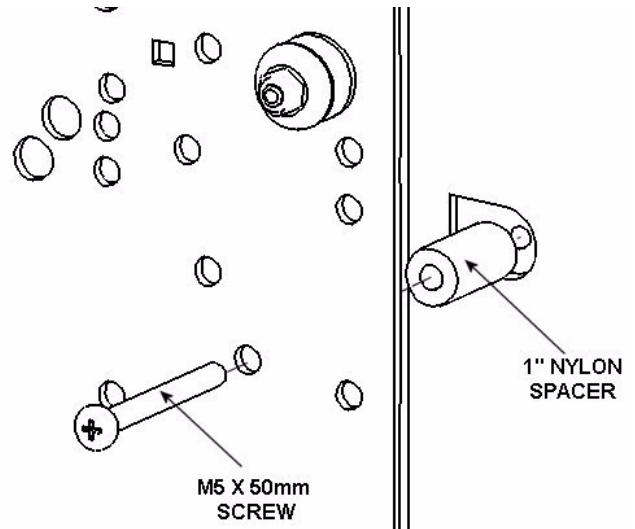
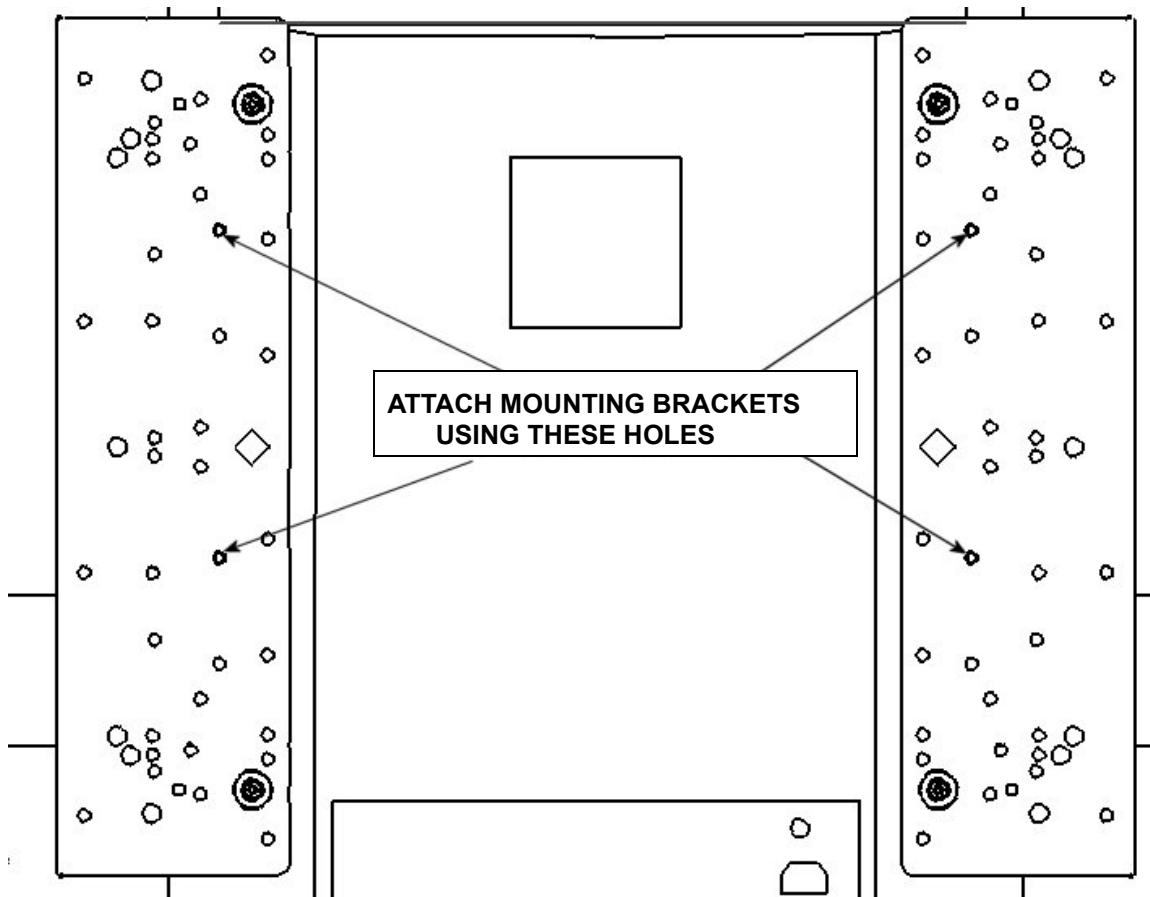

Figure 8. Spacer Installation for Group 3
Figure 9. Bracket Attachment for Group 3
4. Place the interface brackets over the Nylon spacers (see Figure 8 and Figure 9).
6. Using the hardware in the parts bag labeled C, attach the interface brackets to your display using the proper holes in each interface bracket (See Figure 8 and Figure 9). Do not overtighten the mounting screws.